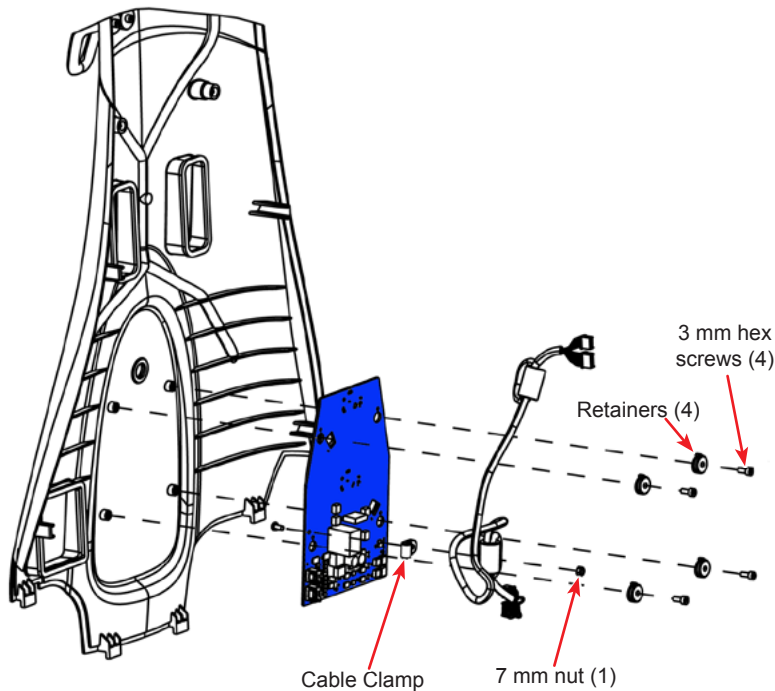

Figure 3-39 Footswitch Charger PCB Removal
- 36.3 Remove 7 mm nut and star washer securing cable clamp for W147 to panel (see Figure 3-39).